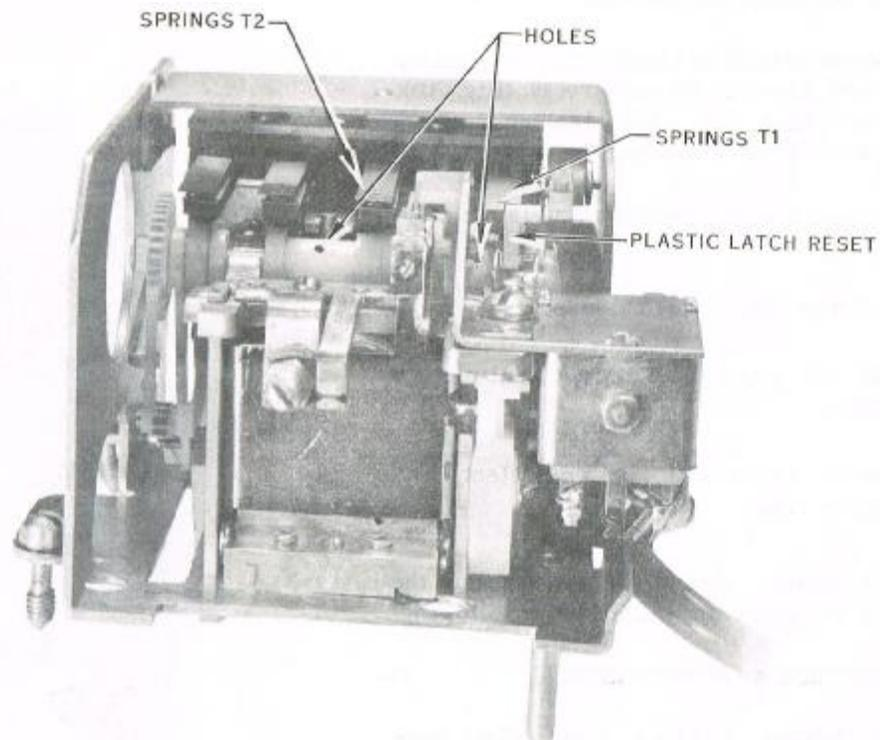

Fig. 9 – Totalizer, Front View
- (2) Release plastic latch reset (Fig. 9) and check springs T1.
- (3) Rotate shaft in proper direction until springs T1 operate as indicated by a movement of the plastic latch reset (Fig. 9).
- (4) Do not allow the shaft to move. Insert one of the paper clips into hole located near the offset on right end of shaft. (See Fig. 9.)
- (5) Hold the paper clip so right end of shaft cannot move.
- (6) Insert the second paper clip into one of the four holes located in center of shaft (Fig. 9). Do not allow paper clip point to extend too far beyond shaft; this may damage insulation of coil located directly beneath the shaft.
- (2) Release plastic latch reset (Fig. 9).
- (3) Rotate shaft in proper direction, one step for each 5 cents of the lowest chargeable rate.
- (4) Springs T1 should operate (indicated by plastic latch reset moving forward) when lowest chargeable rate has been stepped (Fig. 9).
6.05 Example: For a 10-cent rate, shaft should be rotated two steps. On the second step, springs T1 should operate (Fig. 9).